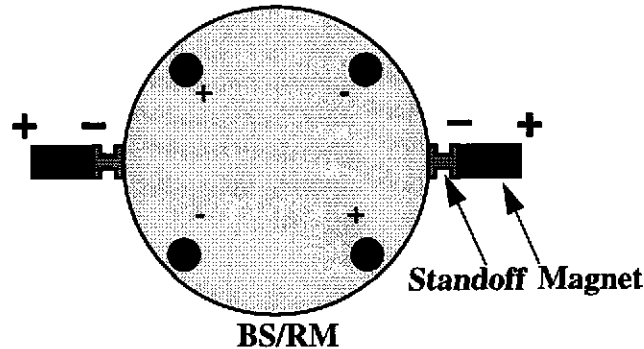

Fig. 1. Configuration of the magnet/standoff Assembly.
8. Apply epoxy: Dip conductor wire in epoxy and withdraw it, leaving a tiny amount of epoxy on the wire. Apply epoxy on the wire to the end of a standoff. Optimum adhesive thickness is .003" [.08mm] or a volume of $3.9 \times 10^{-6} \text{ in}^3$ [.06mm³]. Epoxy should only cover a diameter of about .02" [.5mm] with a height of .01" [.3mm]. Insert standoff carefully into fixture, making sure not to get adhesive on fixture. Repeat this for three more magnet/standoff assemblies. Make sure that the magnet's poles are in opposite configuration to the magnet next to it in the circle. For example, see Figure 1 below. Lightly tap the top of the magnets. The magnets are placed so that polarities of the magnets alternate; this is to prevent the mass from being shaken in position and orientation, by time-varying ambient magnetic fields.
4. **Check polarity of magnets:** Check that the magnet/standoff assemblies that will be used with this fixture are of the same pole configuration (i.e. the positive pole is glued to the standoff) as shown in Figure 1.